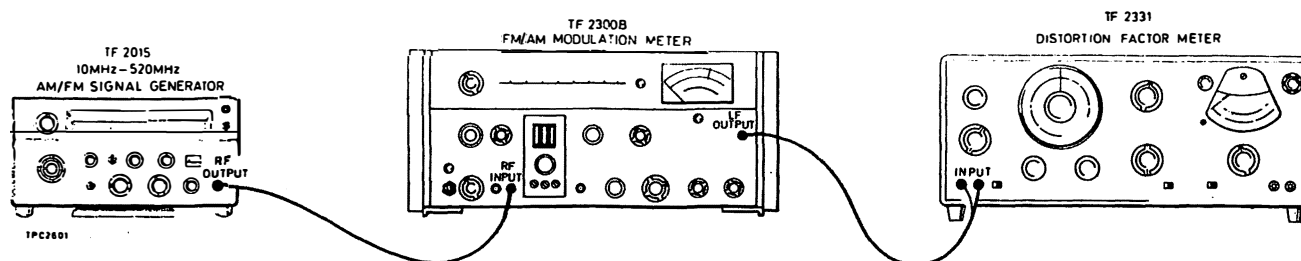

Fig. 4.7 Test gear arrangement to check f.m. and a.m. distortion and f.m. on a.m.
1. Connect the test equipment as shown in Fig. 4.7.
1. With the test equipment connected as in Fig. 4.7 repeat 4.6.14 (2). Then set the FUNCTION selector at INT FM and the SET MOD control to position the pointer of the MOD/CARRIER meter at the centre of the white box.
1. Connect the test equipment as in Fig. 4.7.